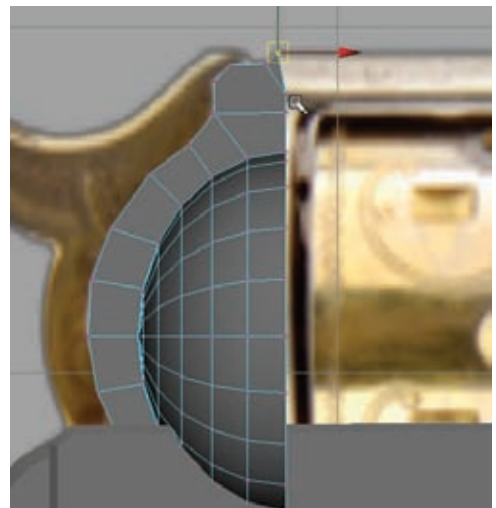

Figure 3.28
9. Using the Cut Faces tool (still in the Front view), cut through the upper-right corner of the extrusion, which allow you to lift up on the upper corner like in Figure 3.28 and more closely match the shape in the reference image.